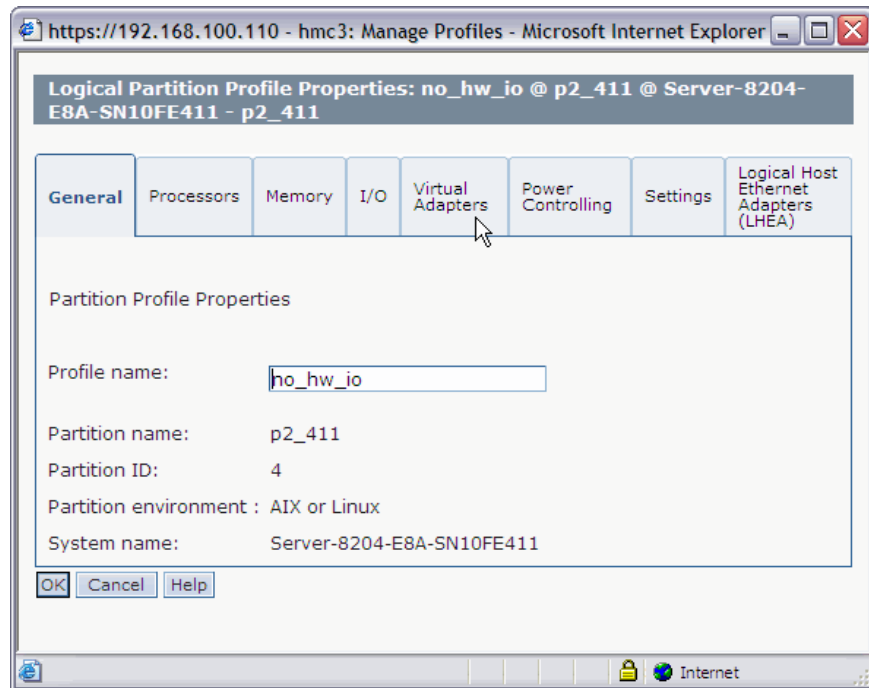

Figure 5-17 Virtual Adapters tab
- a. Select the **Virtual Adapters** tab, as in Figure 5-17.